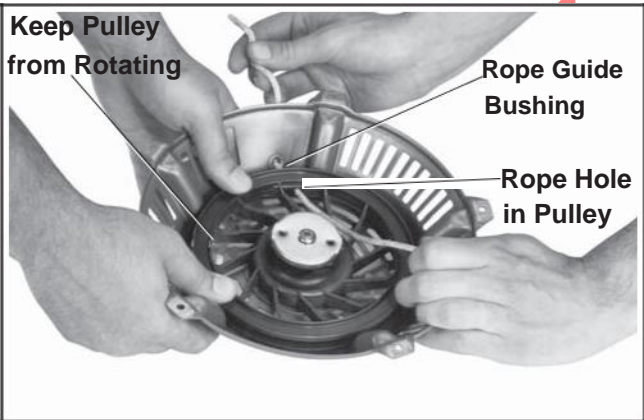

Figure 7-4. Installing Rope.
- 9. Insert the new rope through the rope hole in starter pulley and rope guide bushing of housing. See Figure 7-4.